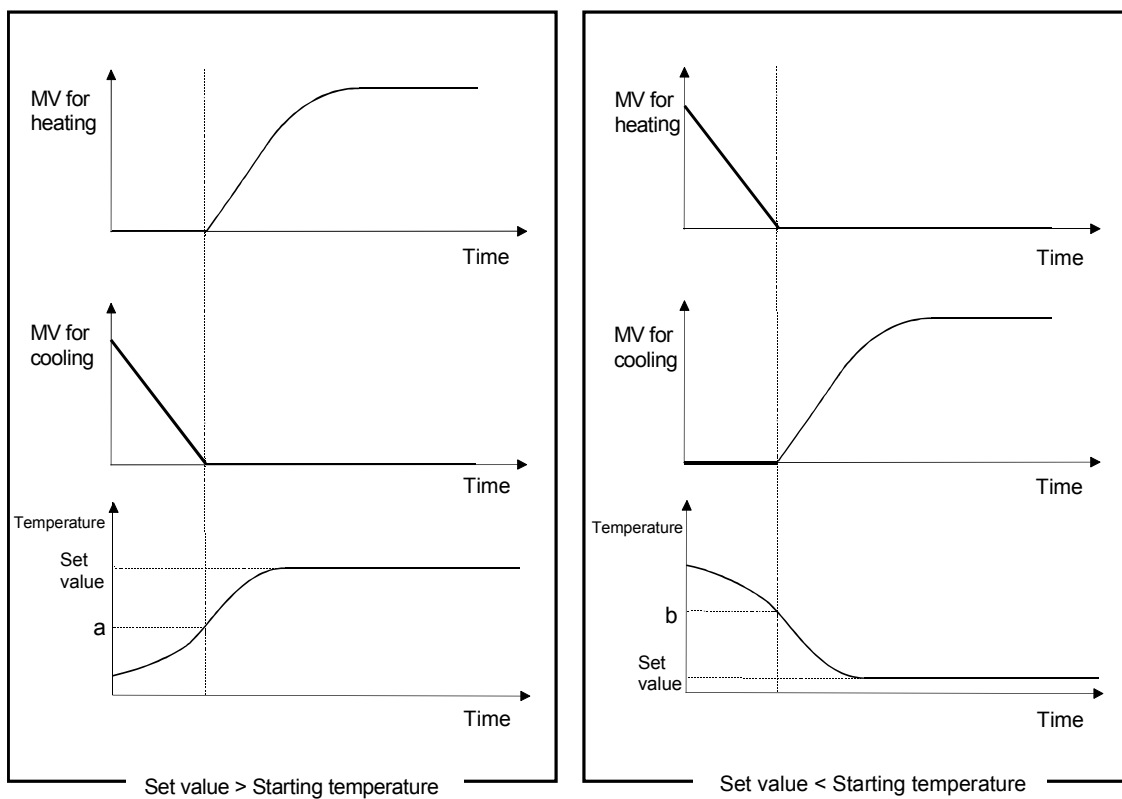

Fig.1.15 Example of process control by heating-cooling control
*1 The Overlap/dead band setting is not made for this example. Depending on the relation between the set value (SV) and process value (PV), either of the manipulated value for heating (MVh) or the manipulated value for cooling (MVc) will be output. (In Fig.1.15, when the starting temperature is higher than point "a" or lower than point "b", only MVh or MVc is output accordingly.)